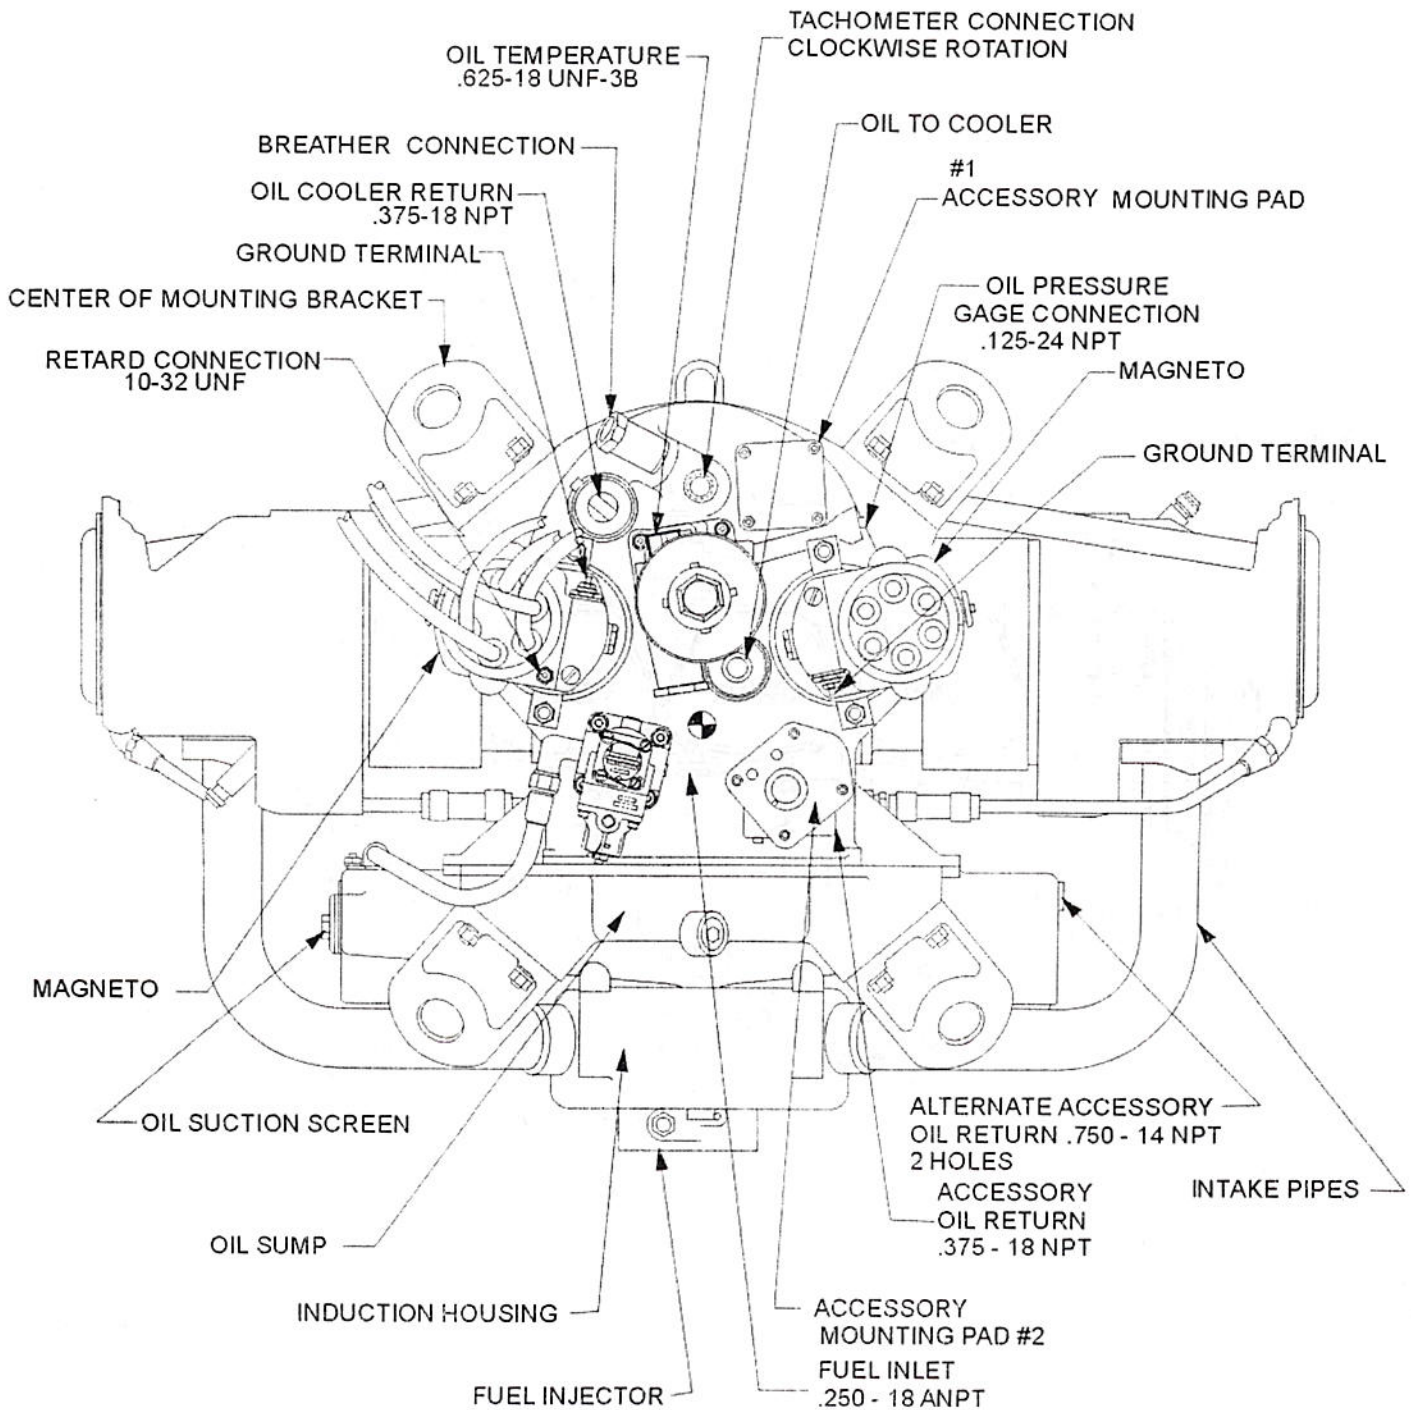

Figure 2-3. Installation, Rear View
- a. Refer to installation drawing, Figure 2-3. Remove cover plate and gasket. When installing the accessory, use the gasket and hardware specified by the airframe manufacturer. Torque to the value specified for the thread size in the Table of Limits, IO-580-B1A Maintenance and Overhaul Manual.